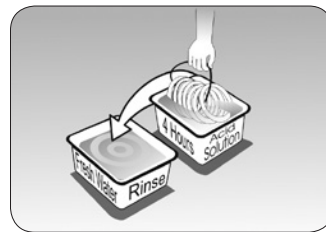

Figure 7
- Thoroughly wash the discs with fresh water and then reassemble the discs on the spine (Figures 7 and 8).